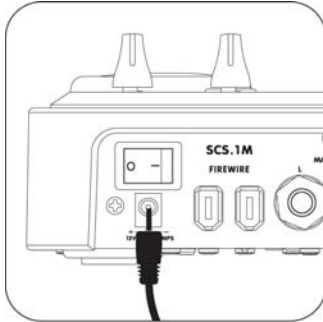

Figure 2.1
**Step 1:** Locate the included power cable and adapter (12V) and connect it to the SCS.1m and to your power source. (Figure 2.1)